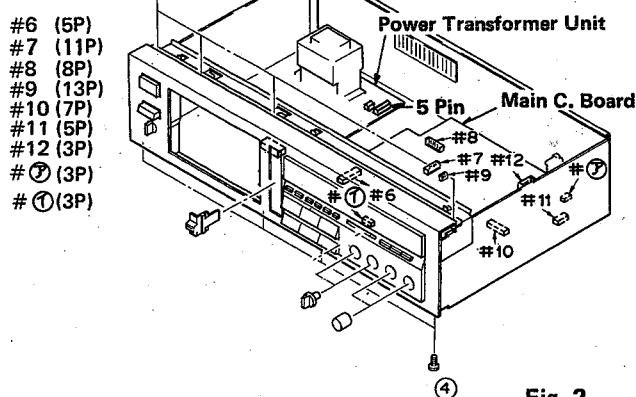

Fig. 2
b. Remove 5 knobs in Fig. 2.
c. Detach 9 connectors (#6 ~ #12, ⑦, ⑧).
e. Remove 8 screws (④) in Fig. 2 and pull the front panel forward.